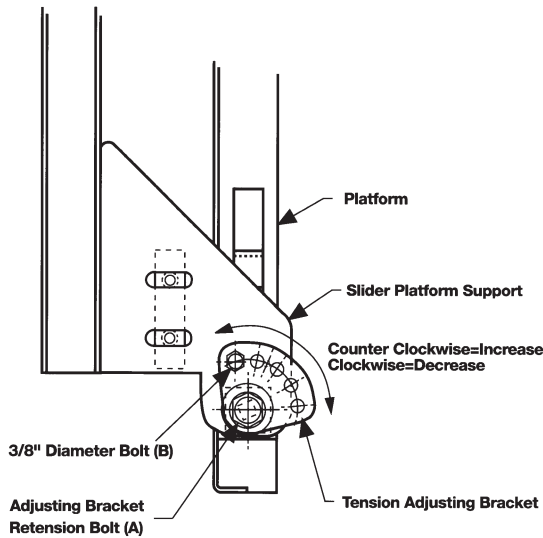

Fig.3
12. Torsion bar adjustment (See figure 3).
- Remove 5/8" diameter bolt (A) from center of tension adjusting bracket.
- Turn breaker bar clockwise to relieve tension on 3/8" diameter bolt (B) and remove it from the bracket.
- To increase tension, rotate bracket counterclockwise until desired tension is reached. Line up hole in bracket to hole in slider platform support and replace bolt (B).